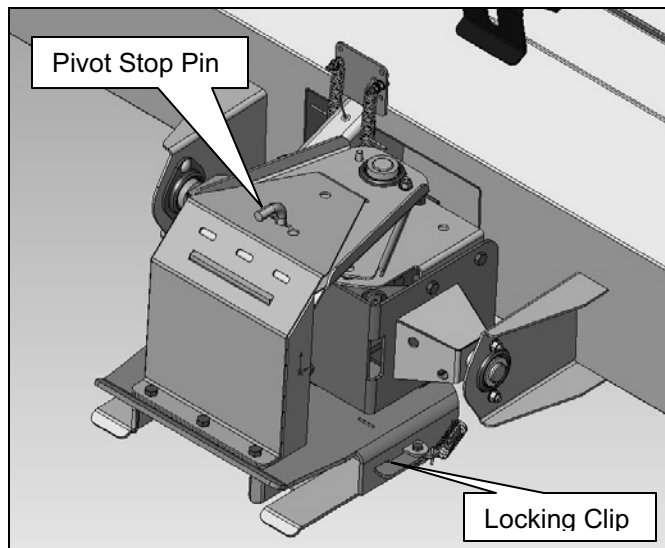
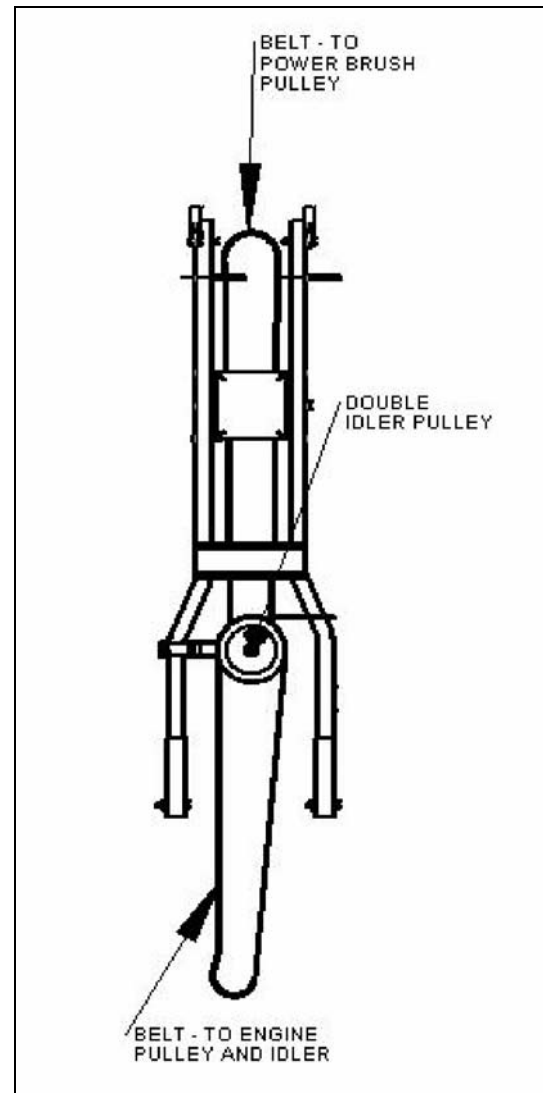

Figure 3-2
Figure 3-7: Belt Drive Schematic
4. Engage both locking clips on the brush (one on each side) as shown in Figure 3-2.
Remove Pivot stop pin (shown in Fig 3-2) and manually adjust angle by rotating brush to desired angle and reinsert pin
- b. To replace the belt; perform the previous step and unlock locking clips as shown in Figure 3-2 and replace belt. See Figure 3-7, Belt Drive Schematic.